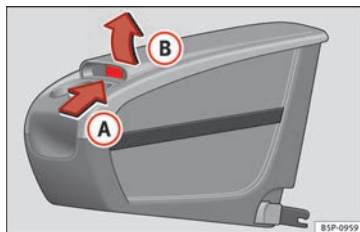

Fig. 91 Mobile storage compartment. Opening.
- Lift the cover **B**, in area **A** » **Fig. 91**.